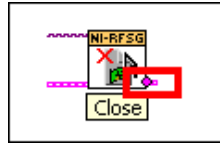

Figure 8. Error Out Terminal on niRFSG Close VI
6. Create an error indicator by right-clicking on the *error out* terminal of the niRFSG Close VI and selecting *Create»Indicator*. The *error out* terminal is highlighted in Figure 8 below: